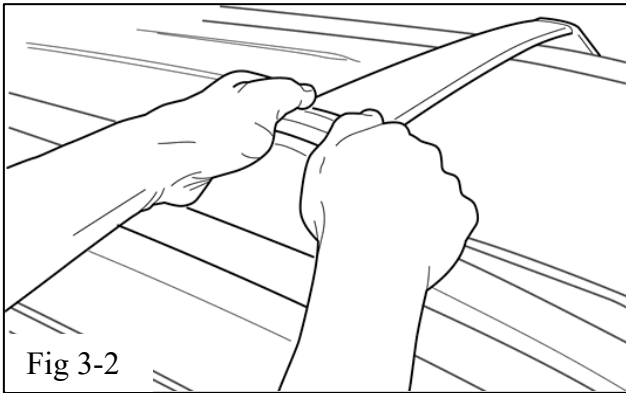

Fig 3-2
- (b) Rotate the top of the cover toward the stanchion and use both hands to firmly press to snap the top and side tabs into place (Fig. 3-2).
- (c) Repeat steps (2) through (3) with the second crossbar.